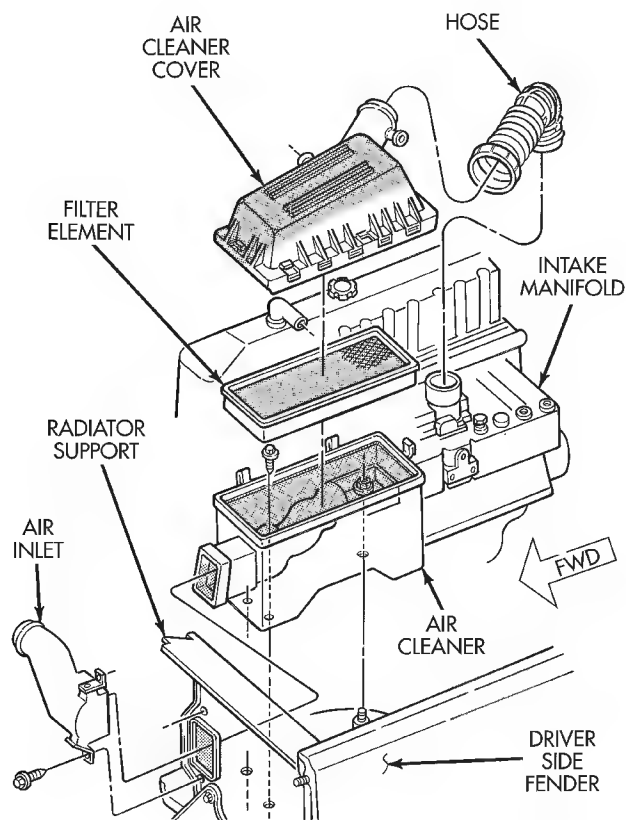

Fig. 4 Air Cleaner Components
- (1) Disconnect vacuum and vent hoses at air cleaner cover.
- (2) Loosen clamp securing air cleaner hose to intake manifold. Use screwdriver to tap clamp loose.
- (3) Remove air cleaner cover and hose. Then remove air filter from air cleaner housing (Fig. 4).
- (4) Remove two bolts and one nut that secure air cleaner housing to body (Fig. 4).
- (5) Remove air cleaner housing from engine compartment (Fig. 4).